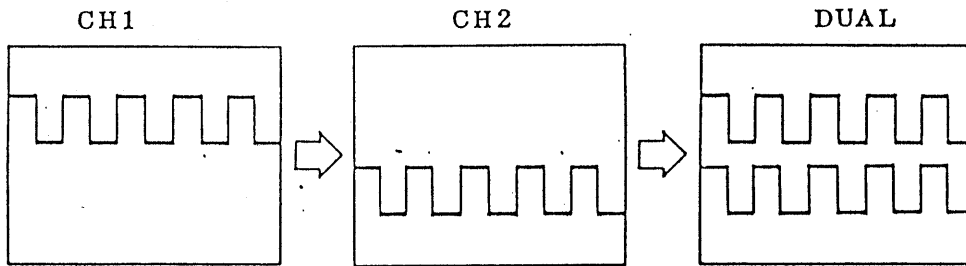

Figure 6-3.
- 2) Apply the calibration signal also to the CH2 INPUT terminal (19) with the probe as is the case for CH1. Set the AC-GND-DC switch (20) to the AC position. Set the VOLTS/DIV switches (12) (17) to the 20 mV/DIV range and adjust the \updownarrow POSITION controls (9) (21) so that dual channels of waveforms are displayed as shown in Figure 6-3.